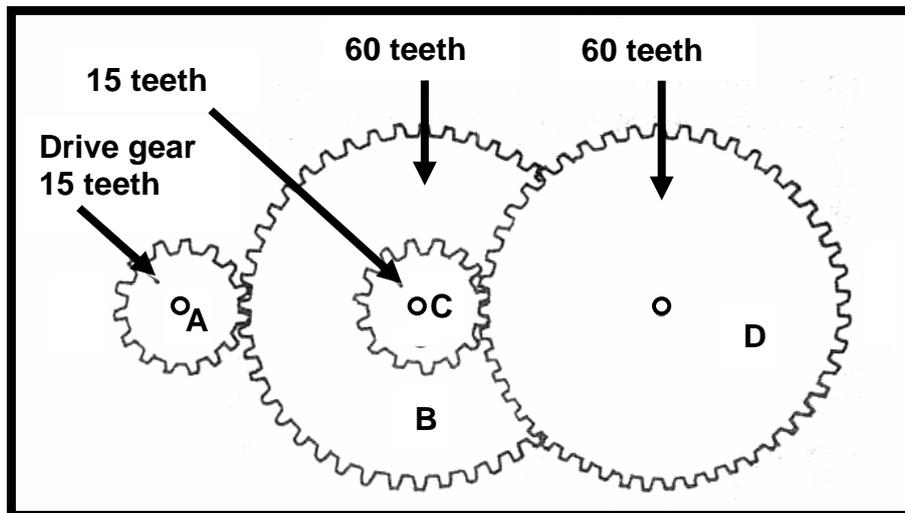

FIGURE 1.4
- D automatic gearbox lubrication. (1)
1.16 The gear ratio of the compound gear shown in FIGURE 1.4 is ...